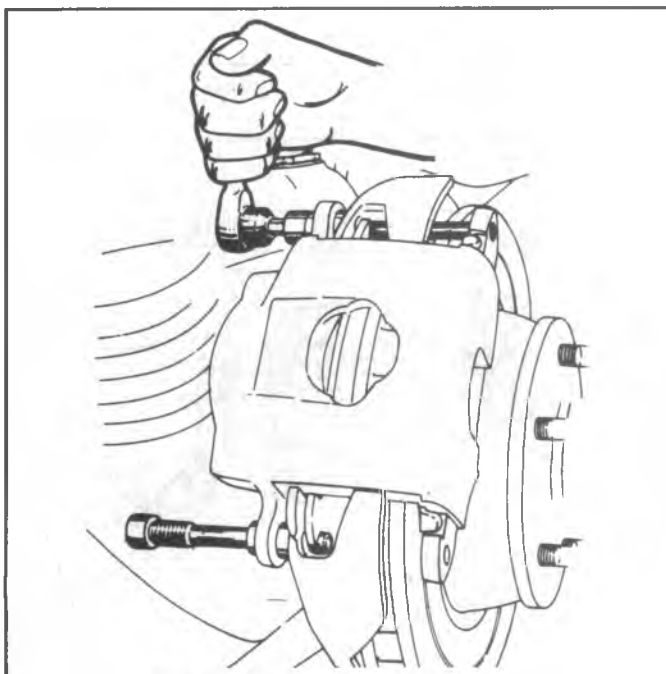

Fig. 5-21—Removing Mounting Bolts
3. It is not necessary to disconnect the brake hose for shoe and lining replacement. Remove the two mounting bolts which attach the caliper to the support bracket (fig. 5-21). Lift the caliper off the rotor and remove the inboard shoe. Dislodge the outboard shoe and position the caliper on the front suspension arm so that the brake hose will not support the weight of the caliper.